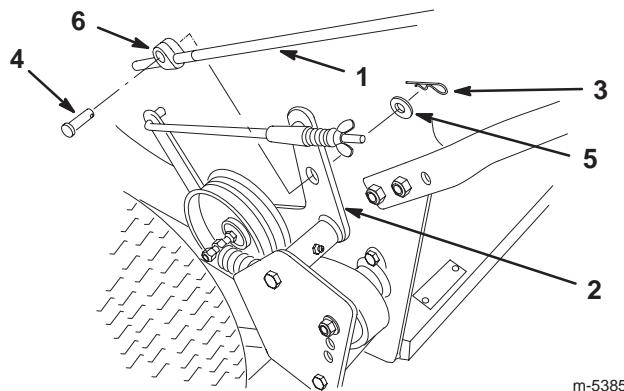

Figure 5
1. Thread the rod fittings an equal distance onto each control rod (Fig. 5).
2. Install the rod fittings with clevis pins into the holes in the idler brackets (Fig. 5). Secure the rod fittings with washers and hairpin cotters (Fig. 5).
Note: Install each rod fitting so that the clevis pin is above the control rod as shown in Figure 5.